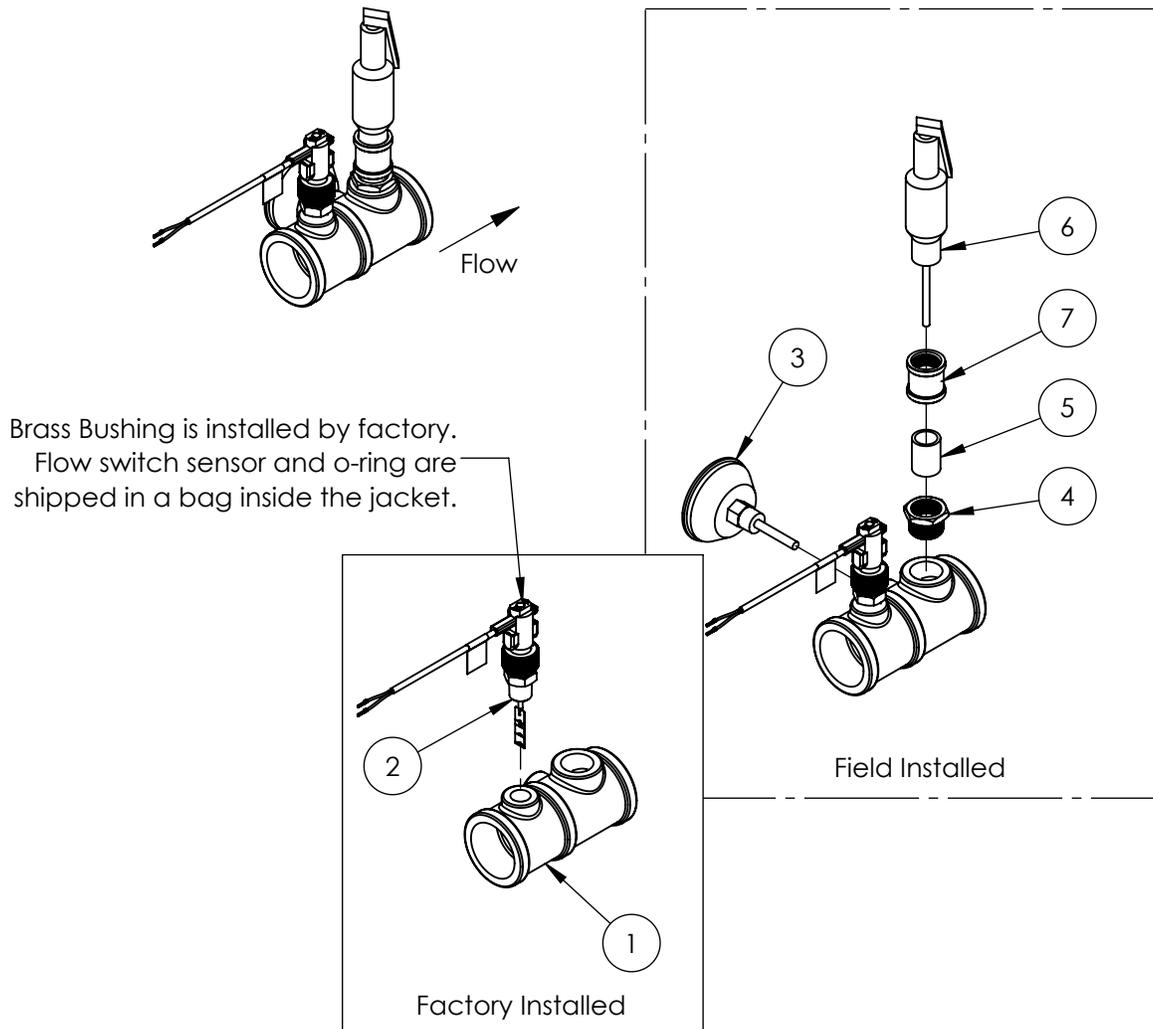

Figure 17: Relief Valve Package Assembly
2. The hot water supply line shall be connected to the outlet piping of the appliance shown in Figure 17.
1. The relief valve, T&P gauge, and required fittings ship loose with the appliance. These parts must be installed to the outlet as shown in Figure 17.
- a. This appliance is shipped with a temperature and pressure (T&P) relief valve complying with the standard for relief valves for hot water supply systems ANSI Z21.22 • CSA 4.4. Must be field installed as shown in Figure 17.